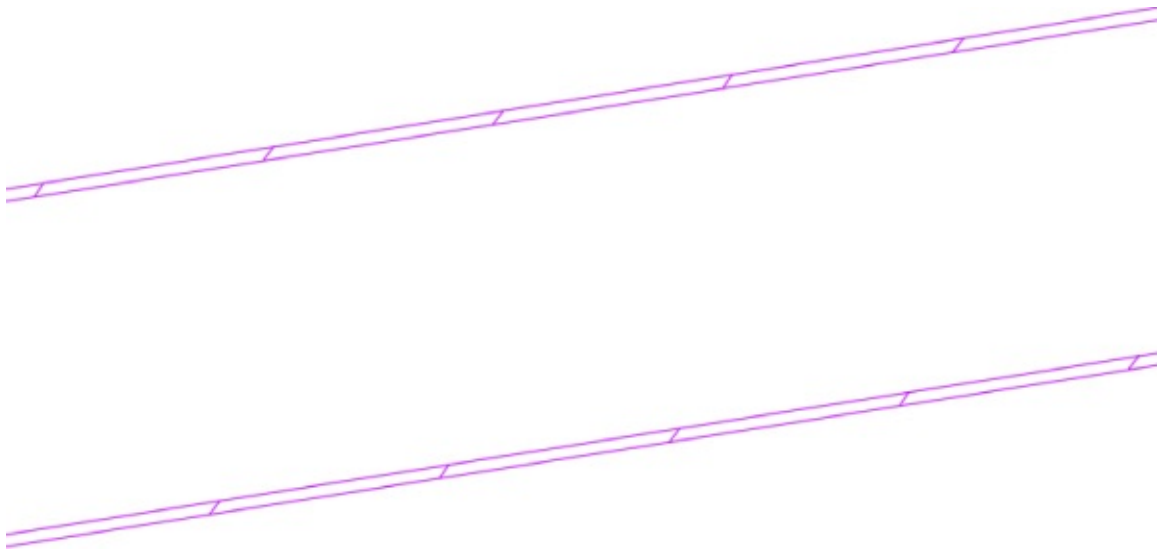

Figure 19.41 Proposed Hatch Wall pipe style shown in plan
14. Examine the pipe in plan and profile, as shown in Figure 19.41. It looks very similar in both views.
Depending on your drawing's scale, it may or may not be worth it to you to add a pipe wall hatch because with thin walls it may be hard to see, as shown in Figure 19.41.